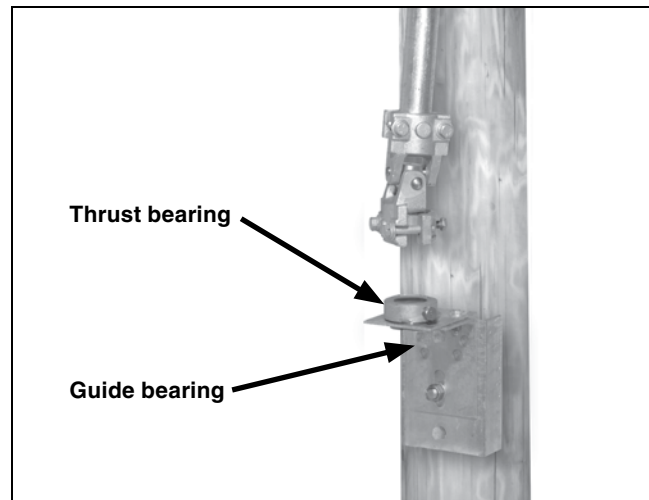

Figure 29. Install the guide bearing.
STEP 26. Position and install the guide bearing assembly on the pole in accordance with the dimension shown on the erection drawing. See Figure 29.